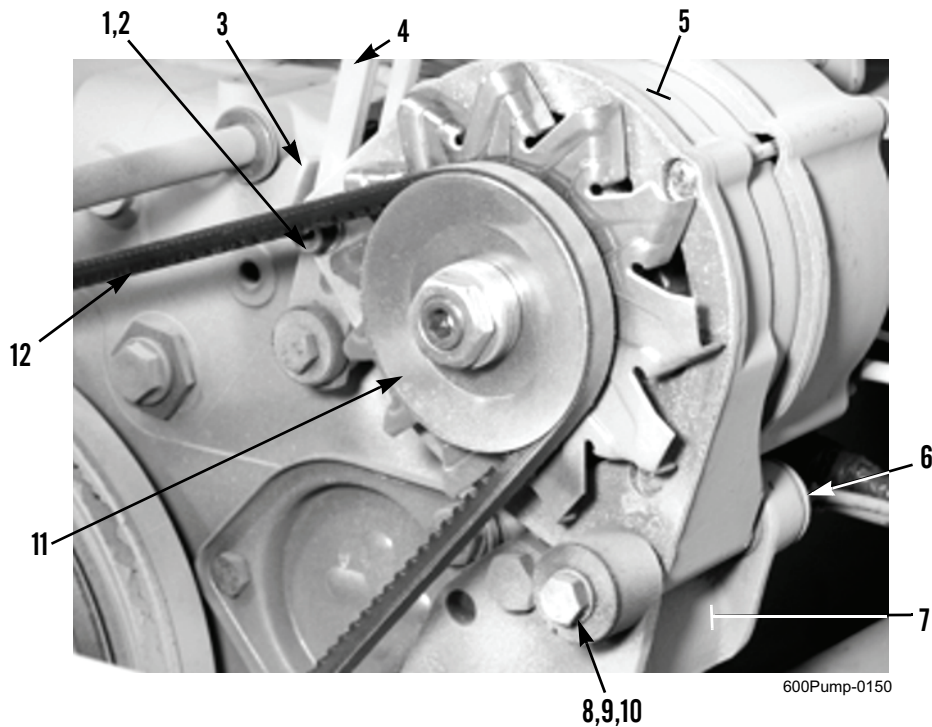

Figure 7. Alternator.
5. Install alternator (Figure 7, Item 5) on bracket (Figure 7, Item 7).
6. Install damping bushing (Figure 7, Item 10), washer (Figure 7, Item 9), bolt (Figure 7, Item 8), and nut (Figure 7, Item 6) on alternator (Figure 7, Item 5) and bracket (Figure 7, Item 7).
7. Install V-belt (Figure 7, Item 12) on pulley (Figure 7, Item 11).
8. Install weldnut (Figure 7, Item 3), washer (Figure 7, Item 2), and capscrew (Figure 7, Item 1) on alternator (Figure 7, Item 5) and adjustment bracket (Figure 7, Item 4).